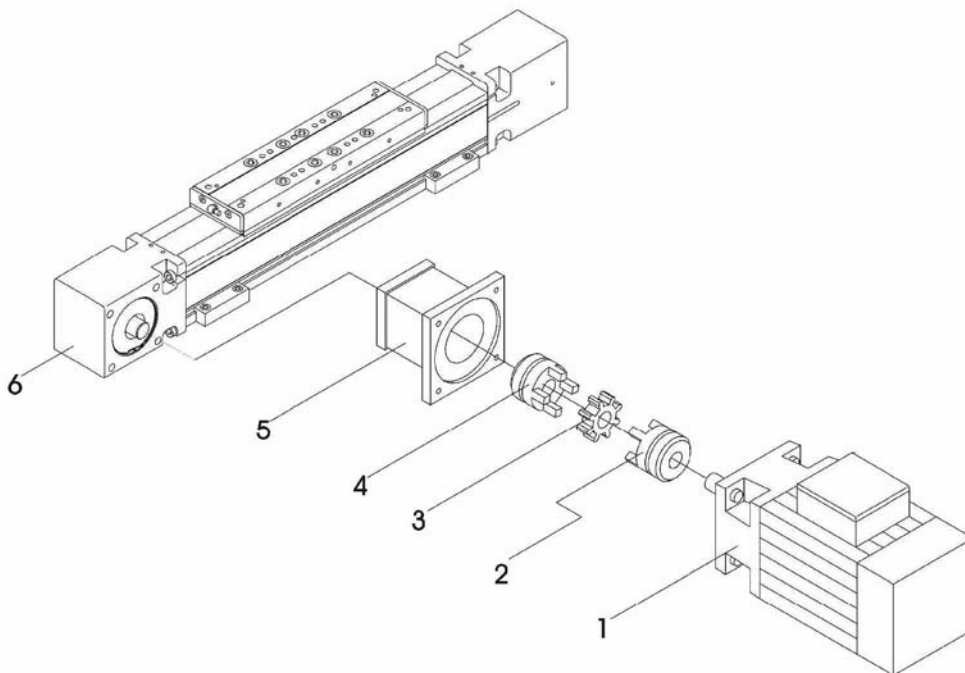

Fig. 6:
1. **Fig. 6:** Place the motor (1) in mounting position beside the linear drive unit.
3. Attach the coupling half (4) to the shaft of the linear drive unit.
4. Attach the motor adapter flange (5) to the fixed-bearing housing (6) with four screws.
5. Push the toothed wheel (3) onto the coupling half on the linear drive unit.
6. Mount the second coupling half (2) on the drive shaft of the motor.
7. Attach the motor with the coupling half to the motor adapter flange (5) with four screws. Ensure that no axial pressure is exerted on the motor shaft. If necessary, correct the distance between the two coupling halves.